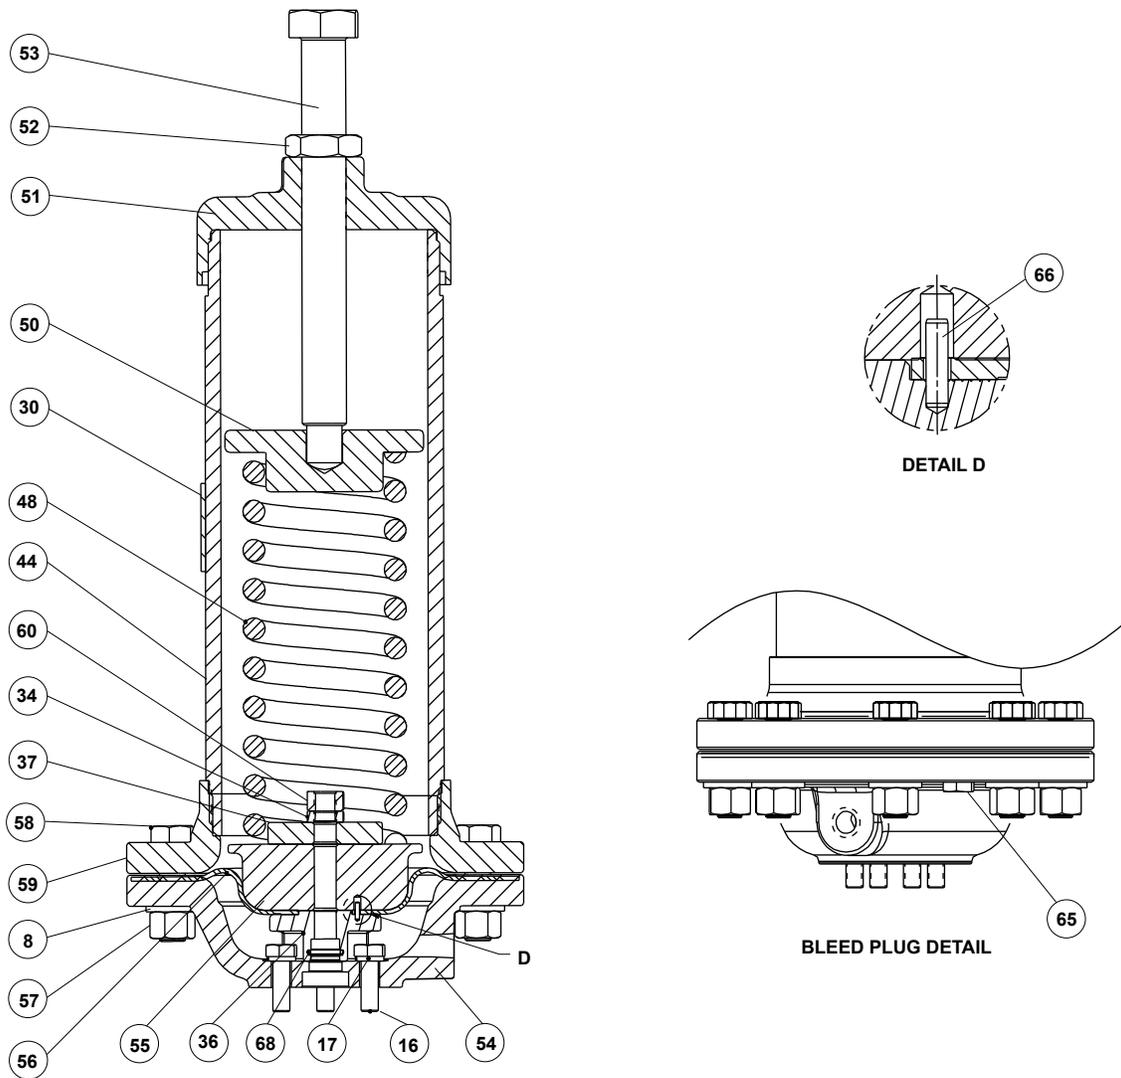
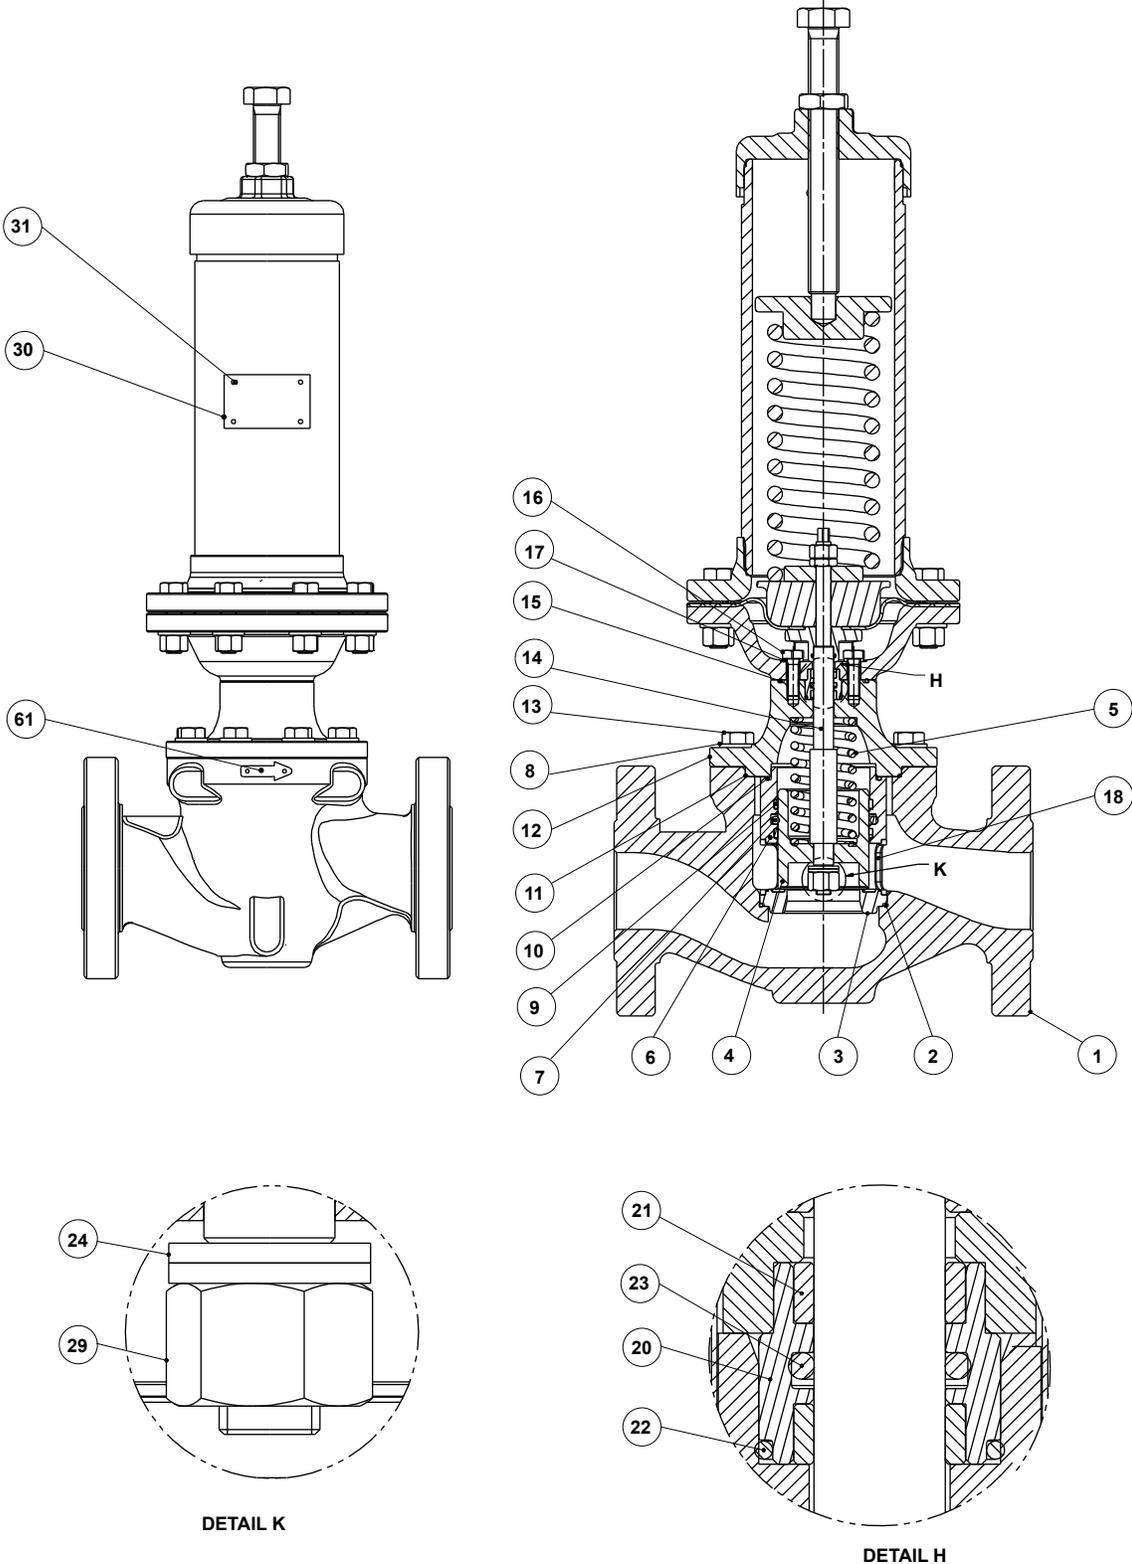
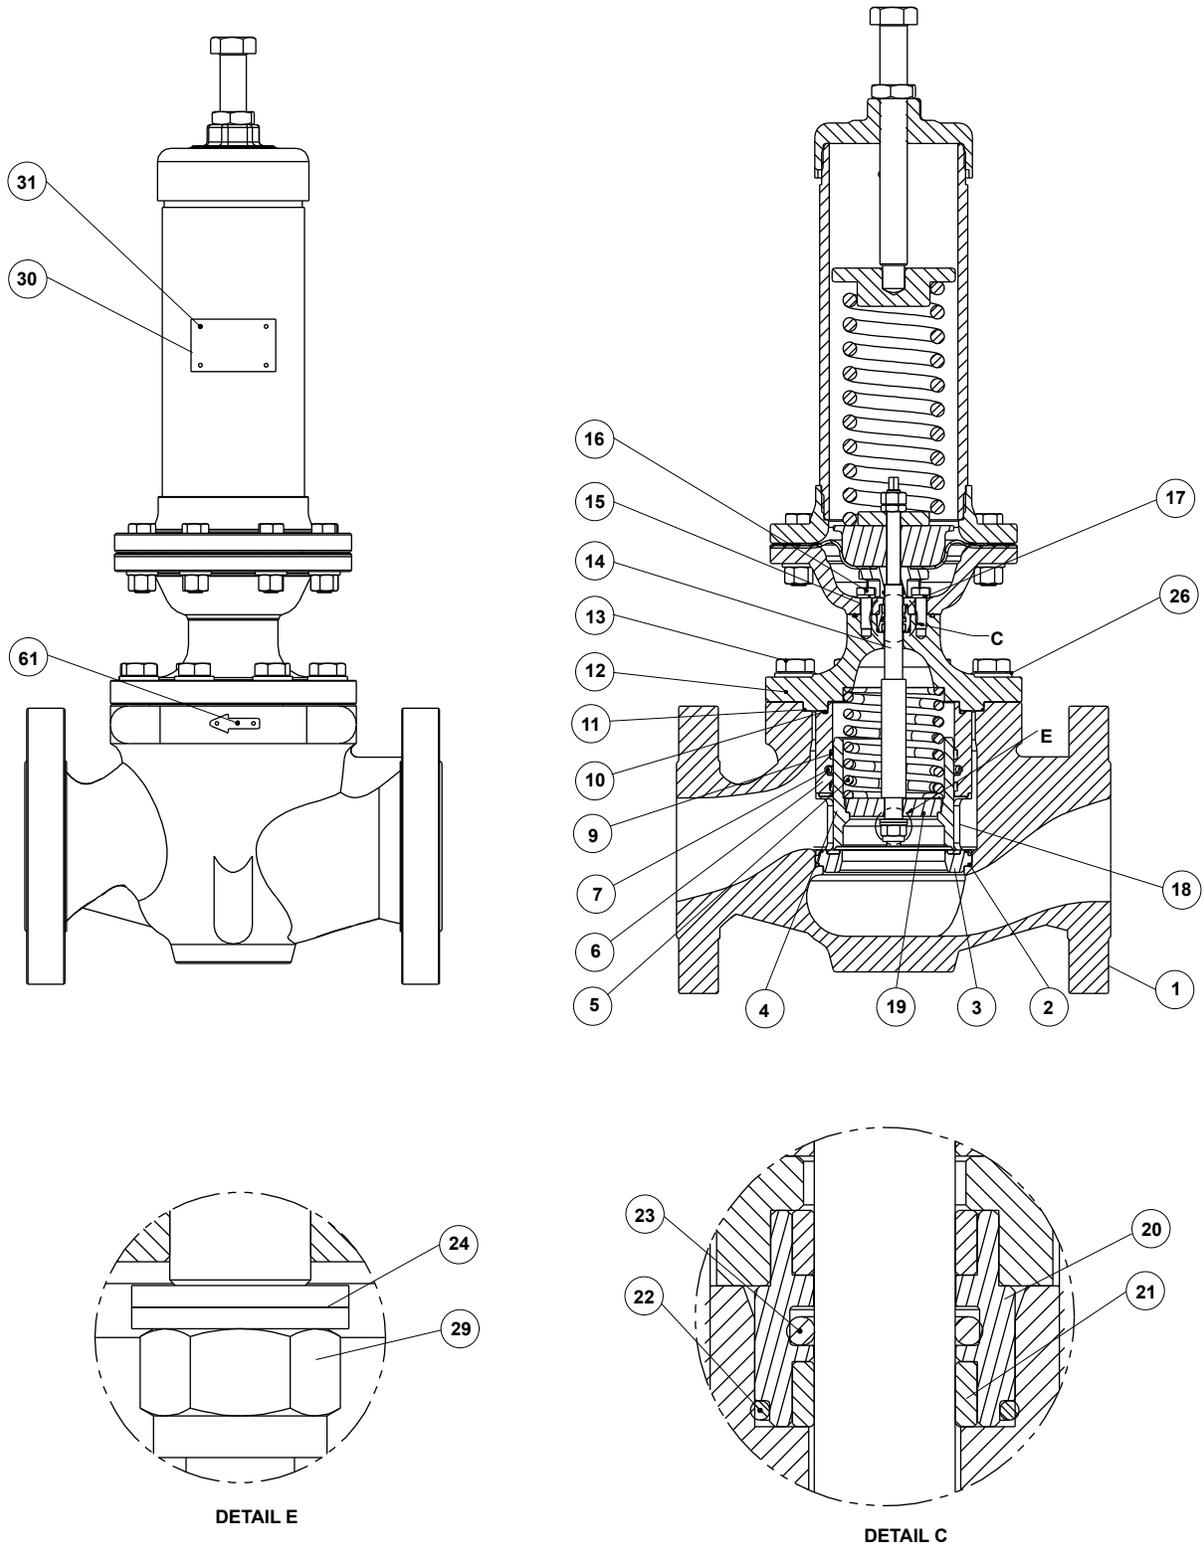

Figure 4. Type CT88 Actuator Assembly
Figure 5. Type CT88 Body Assembly for NPS 2 / DN 50
Figure 6. Type CT88 Body Assembly for NPS 3 and 4 / DN 80 and 100
Refer to Figure 4 for the Type CT88 Actuator Assembly, Figure 5 for the NPS 2 / DN 50 body assembly drawing and Figure 6 for the NPS 3 and 4 / DN 80 and 100 body assembly drawing.
1. Refer to Figures 5 and 6.
Refer to Figure 5 for maintenance instructions for NPS 2 / DN 50 body. Refer to Figure 6 for maintenance instructions for a NPS 3 and 4 / DN 80 and 100 body.